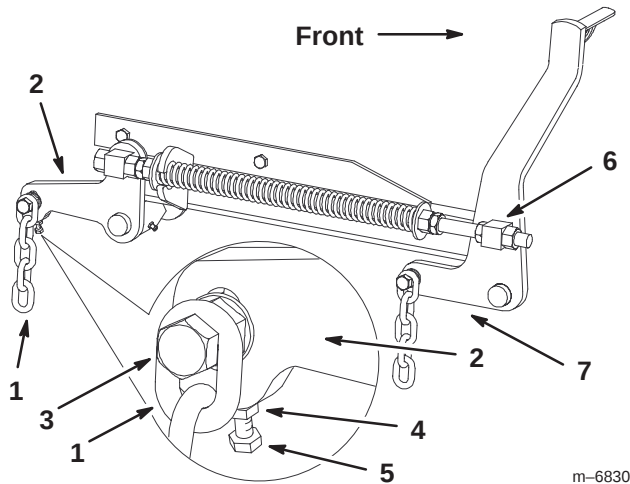

Figure 68
- If the measurements at positions **B** or **C** are not correct, loosen the bolt attaching the rear chain to the rear support arm (Fig. 68).